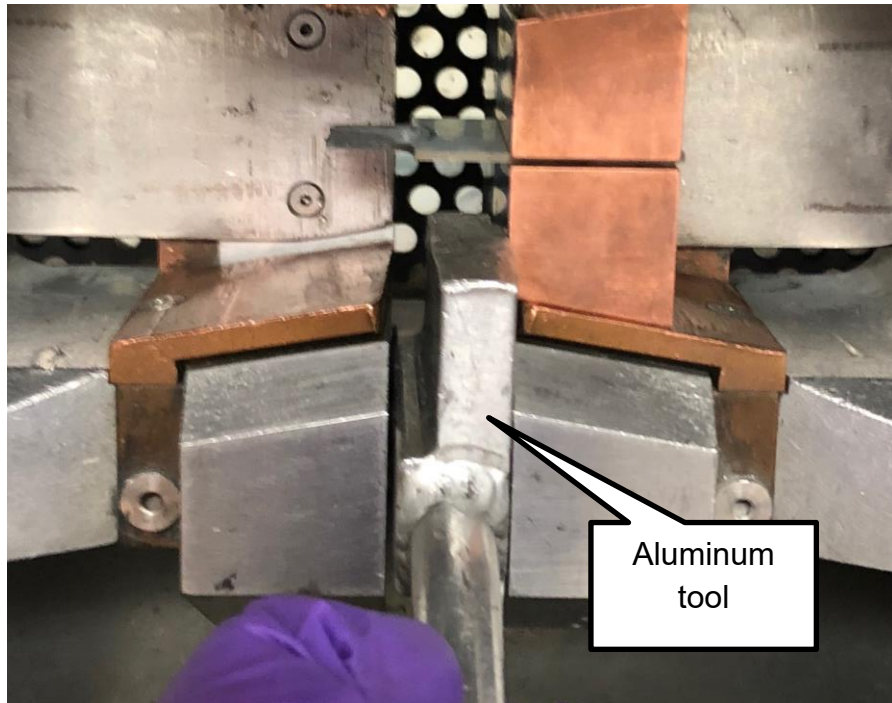

Figure 32. Aluminum tool to remove remaining sample mount from Gleeble jaw
- 36) Place the aluminum tool against the remaining sample mount as seen in Figure 32. Adjust the stroke dial as necessary to get the aluminum tool in place.